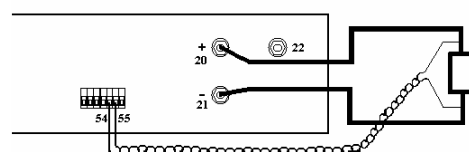

Figure 3. External sense.
2. Connect a twisted-pair (0.25mm² -1.5mm²) between the sense terminals of the converter and the load, see *Figure 3*. The sense leads and the power cables shall be of approximately the same length and drawn as close to each other as possible. **Beware of correct polarity!**